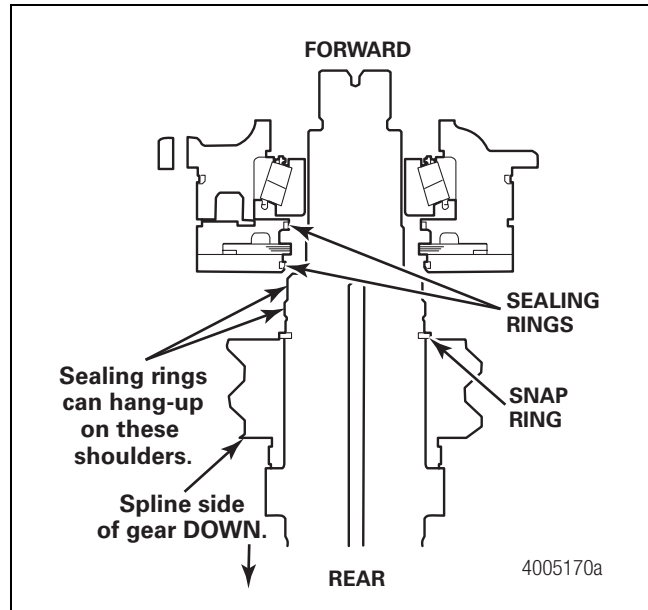

Figure 6.9
- E. Lubricate the sealing rings on the inside diameter of the pump and the shaft journal adjacent to the pump splines. Figure 6.9.